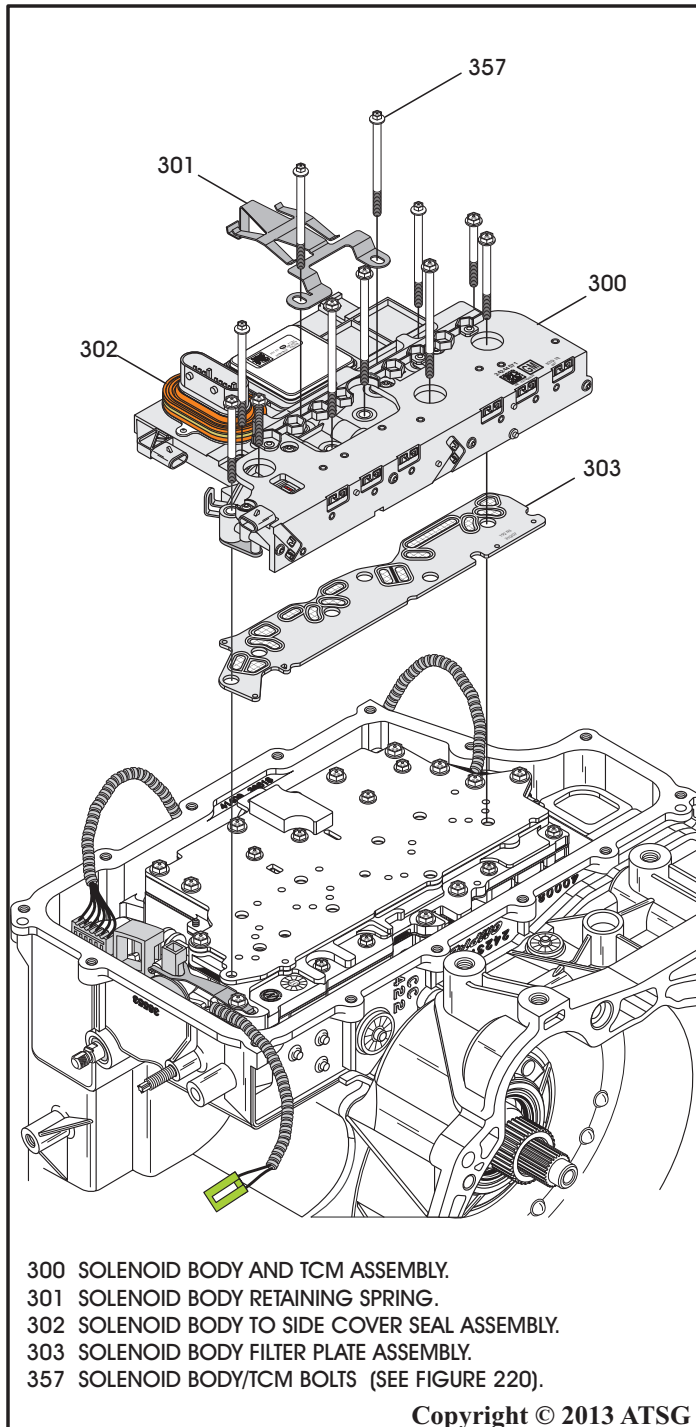

Figure 219
60. Install the completed solenoid body & TCM, with filter plate, as shown in Figure 219.
61. Install the solenoid body retaining spring, as shown in Figure 219. Insert tab of spring into the slot on spacer plate, then rotate into position.
62. Install all of the solenoid body & TCM assembly retaining bolts in their proper positions, as shown in Figure 219, finger tight.